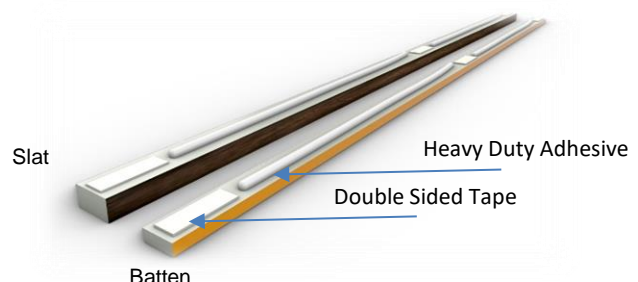

figure 2
- b) On the back of the bar that will be in contact with the wall, apply strands of Heavy Duty Adhesive between the breaks in the Double Sided Tape. See figure 2 below